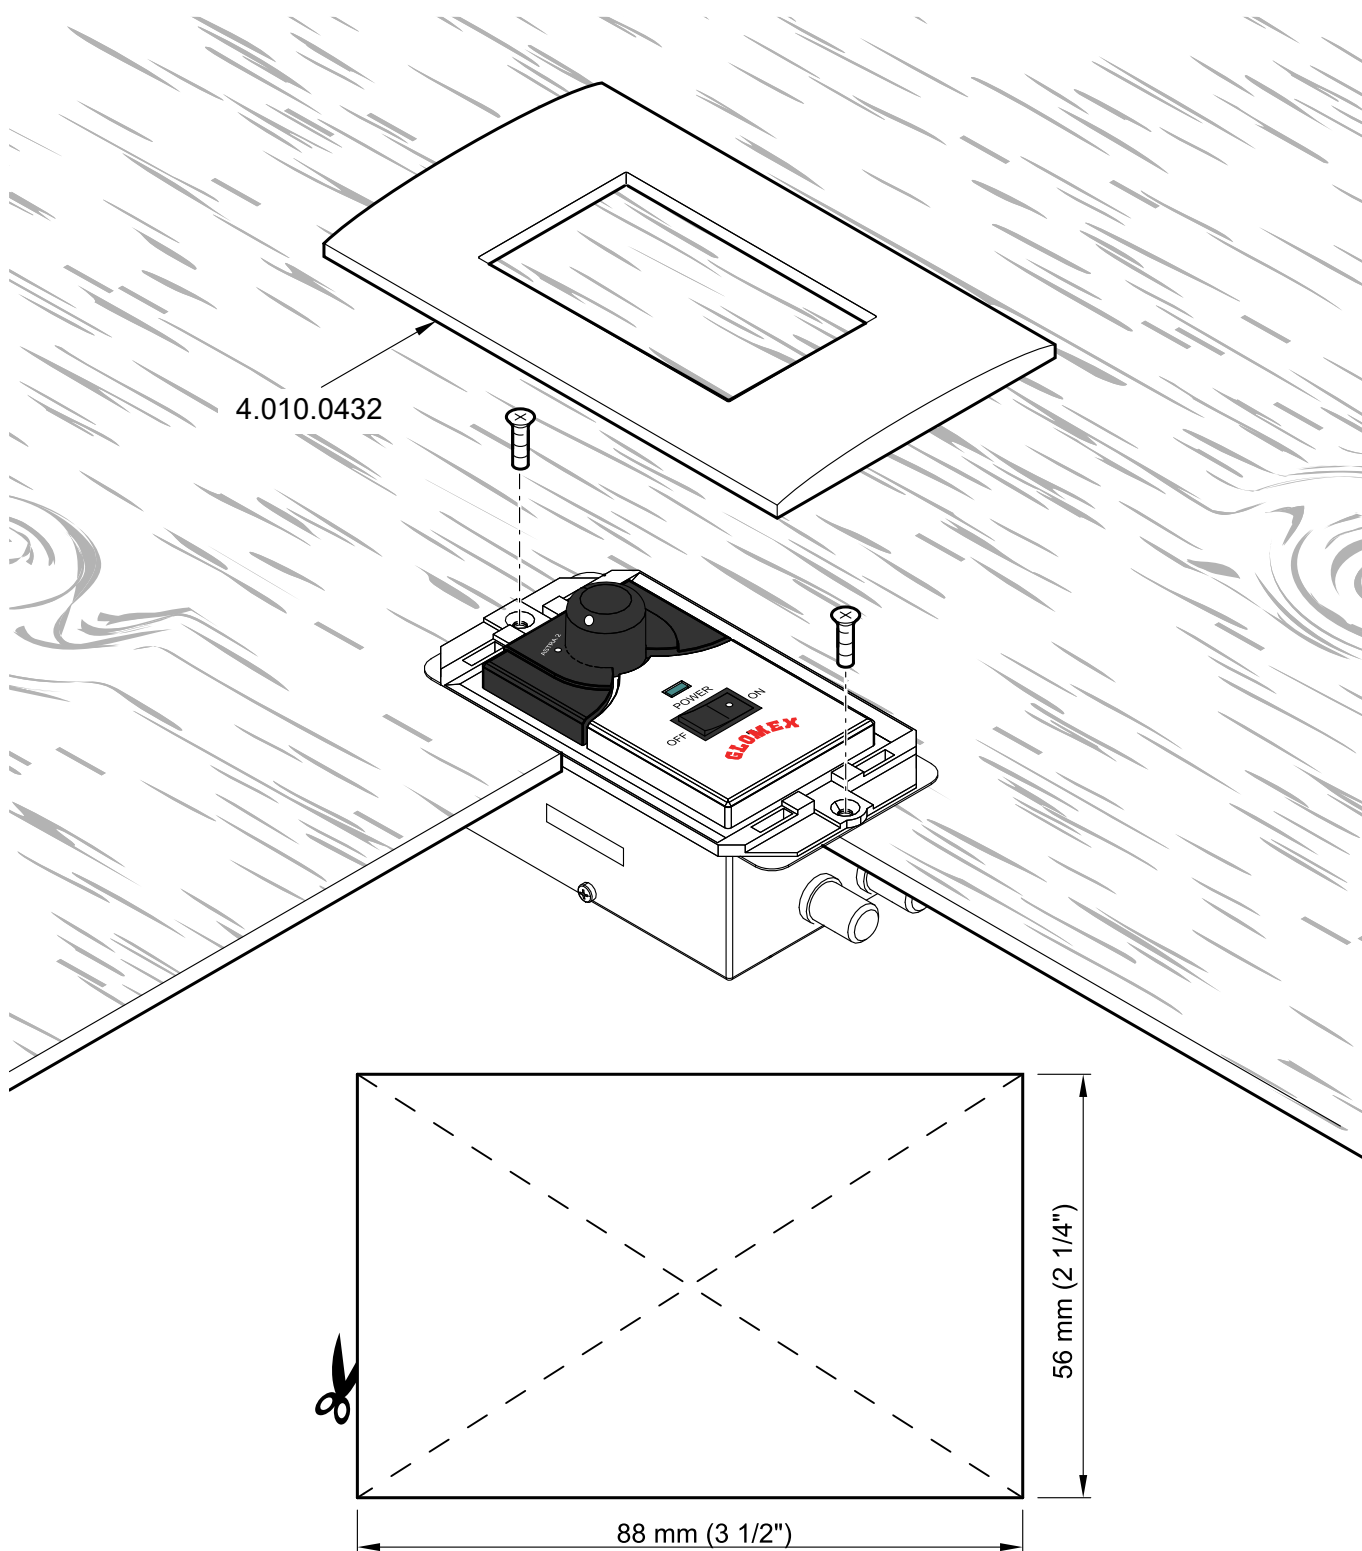

Fig. 19
6. The control unit can be built- off-the-shelf plates (3-module) or the GLOMEX accessory (code 4.010.0432, see **Fig. 19**) by boring a hole with a reciprocating saw and using the drill with 2.5 mm bit (use the cutting template on the following page for the correct dimensions).